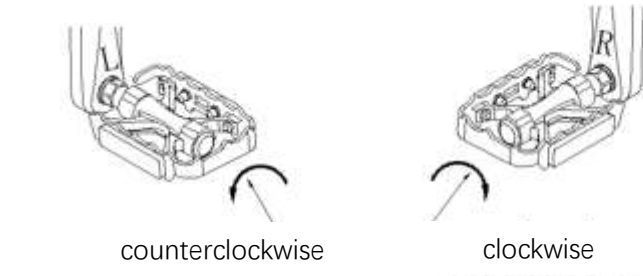

Figure 18.
2. Mount the left pedal on the left crank and tighten **counterclockwise** with the 15 mm end of a 13-15 open-end wrench. Mount the right pedal on the right crank and tighten **clockwise** with the 15 mm end of a 13-15 open-end wrench. As shown in Figure 18.